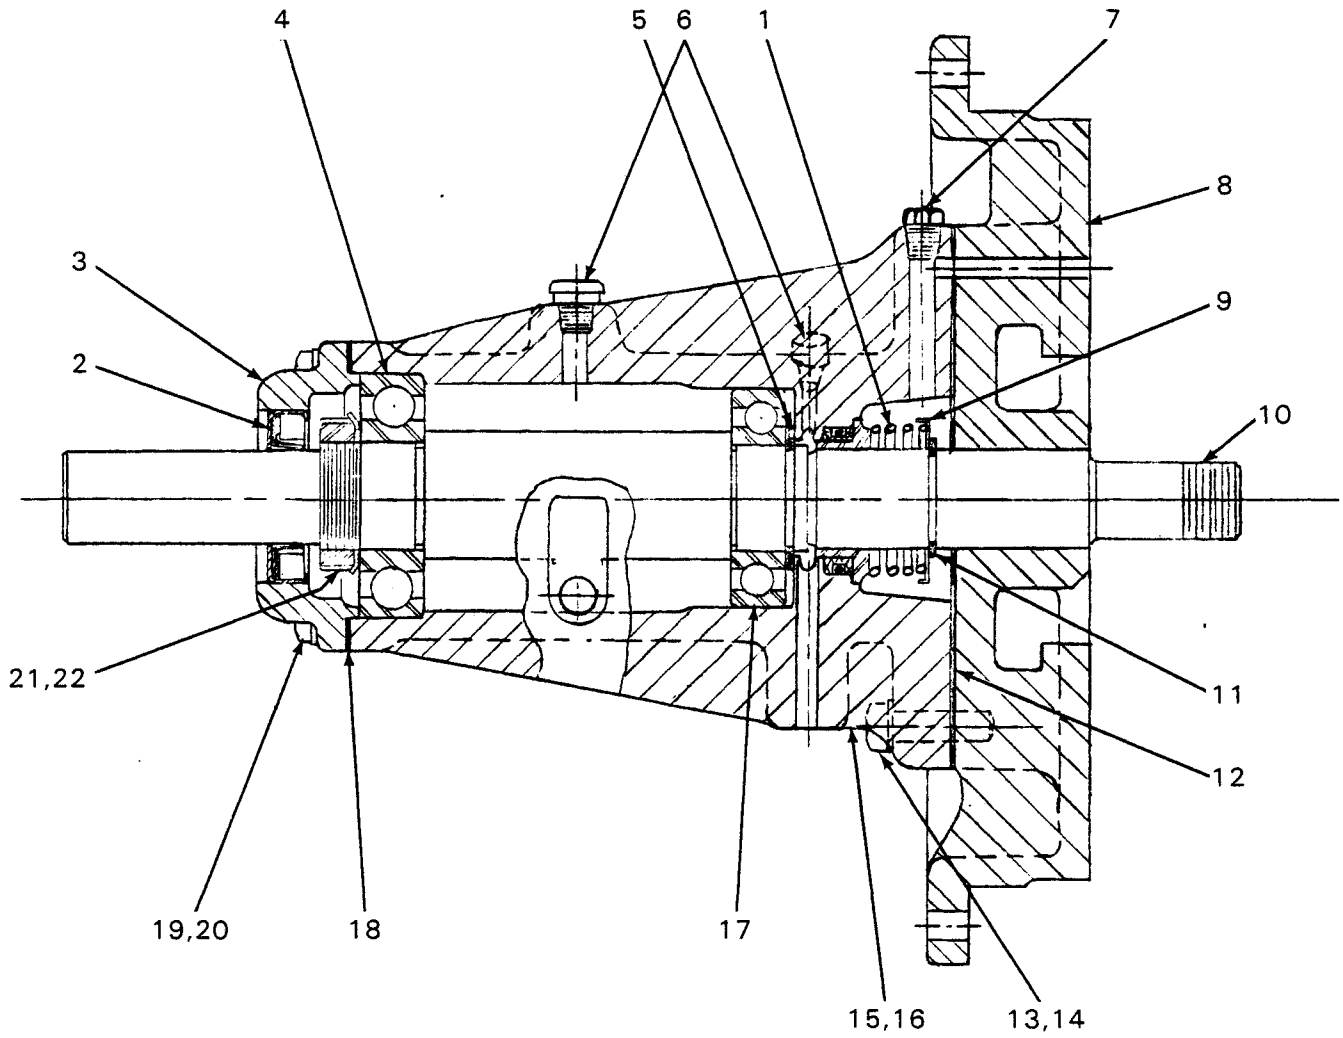

Figure 2. R-12192-01 Bearing Housing Assembly
This pump requires little service due to its rugged, minimum-maintenance design. If it becomes necessary to inspect or replace components in and adjacent to the rotating assembly, however, follow these instructions, which are keyed to the sectional views (see figure 1 and figure 2) and the accompanying parts lists.
Slide the impeller off the shaft (10, figure 2).
To remove the seal assembly (1, figure 2), remove the snap ring (11). Use caution when removing the snap ring from the shaft; tension on the seal spring will be released as the snap ring is removed.